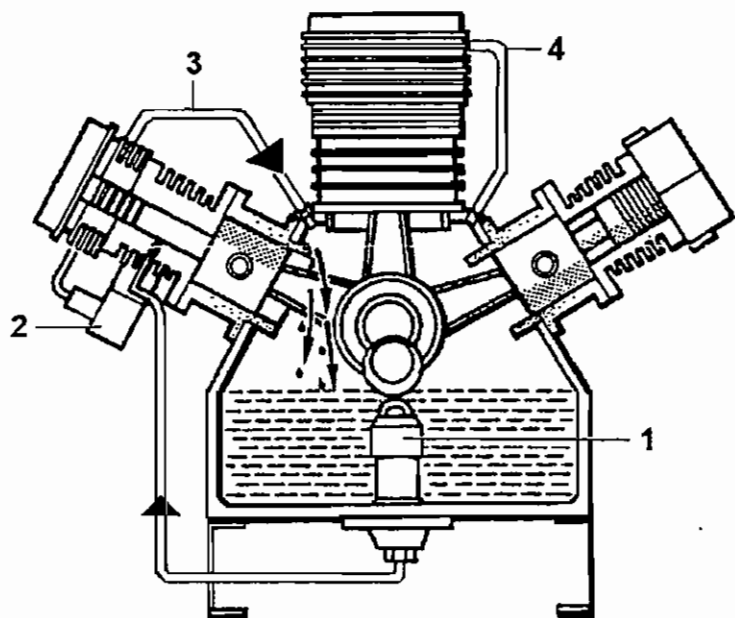

Fig. 4.1 Lubricating oil circuit
The compressor is provided with force-feed lubrication for the third stage (fig. 4.1). The oil pump (1) is driven by a cam of the crankshaft. It pumps oil into the oil pressure regulator (2) at the 3rd stage. The oil pressure regulator maintains the proper working pressure.